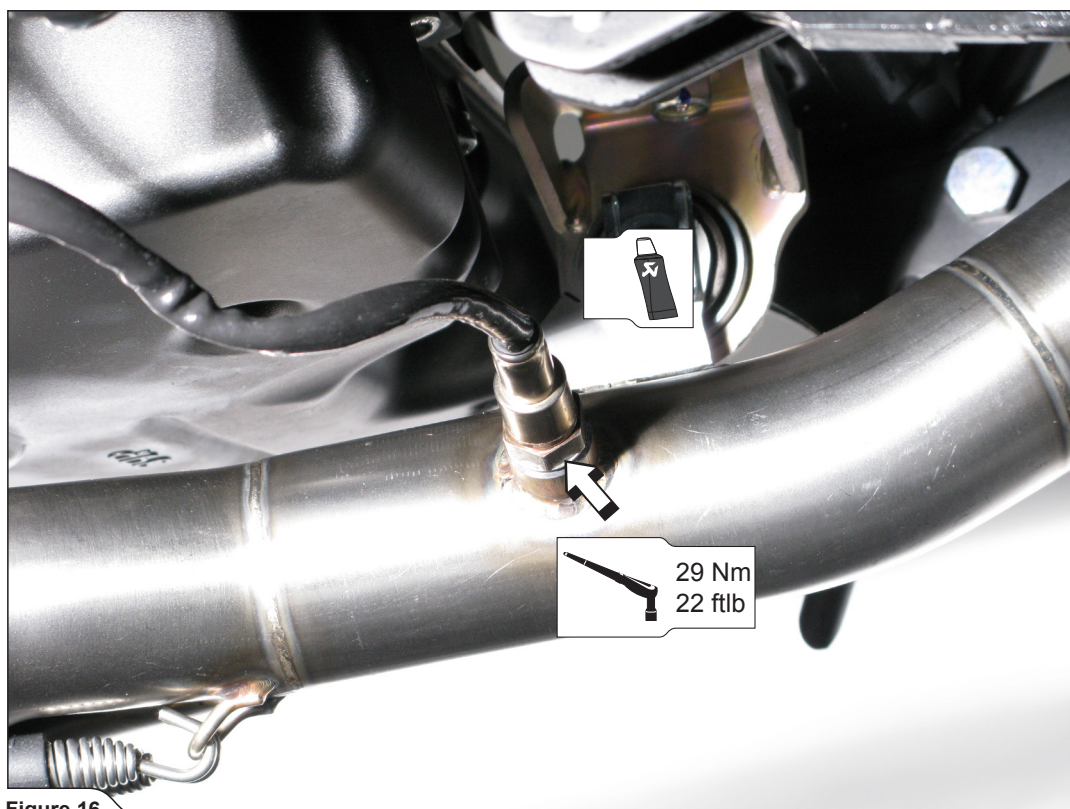

Figure 16
8. **For Akrapovič Racing only:** tighten the lambda sensor; make sure not to damage the sensor's electrical lead (Figure 16).